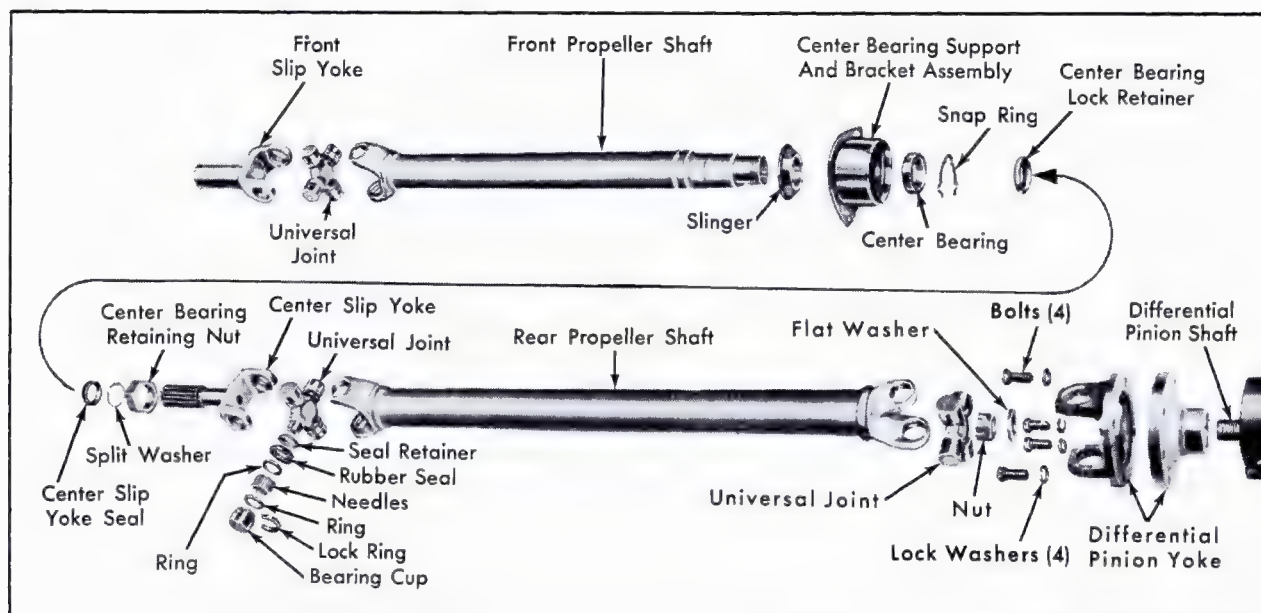

Fig. 4-25 Propeller Shaft Disassembled (698)
2. Pry up center bearing lock retainer, Fig. 4-25.